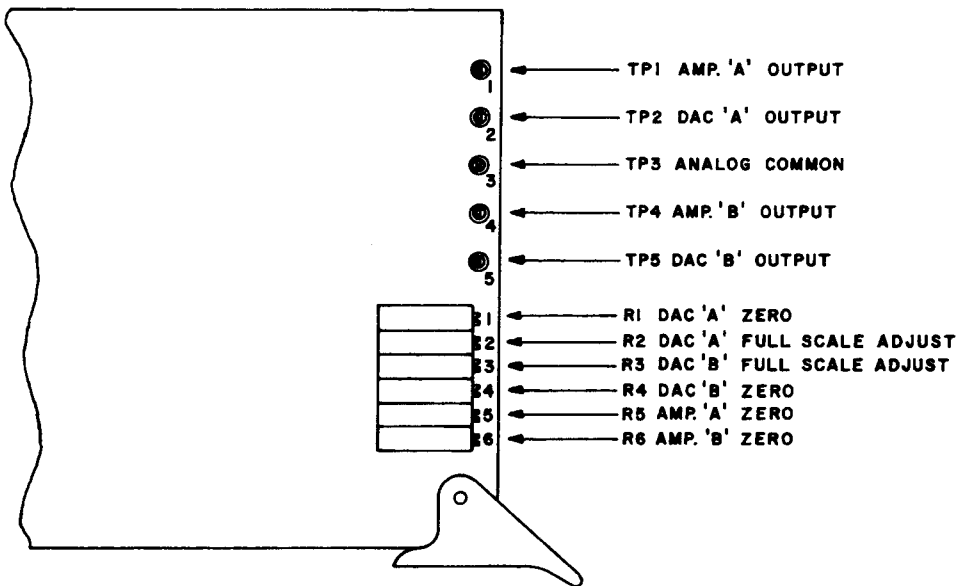

FIG. 3-6 LOCATION OF CALIBRATING CONTROLS AND TEST POINTS, KEPKO MODEL SN 488-B/D PROGRAMMING CARDS.
c) PROCEED AS FOLLOWS: (Refer to FIG. 3-6 for the location of test points and calibration controls)